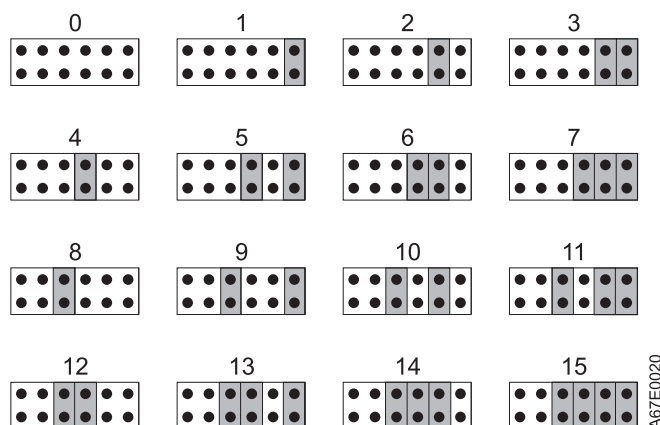

Figure 5. SCSI ID settings on the SCSI ID connector
3. Referring to Figure 5, find the ID number that you chose then place jumpers on the connector pins as shown (use a pair of needle-nose pliers to connect the jumpers to the pins that are shaded).
If the drive is being installed into a tape library, a command can be issued from the library to set the drive's SCSI ID through the LDI interface. Make sure that the SCSI ID is set to 15 (see Figure 5 on page 11). When configured to accept its SCSI ID through the LDI interface, the drive does not respond to SCSI commands until it receives a SETTM CONFIGURATION command through the interface.